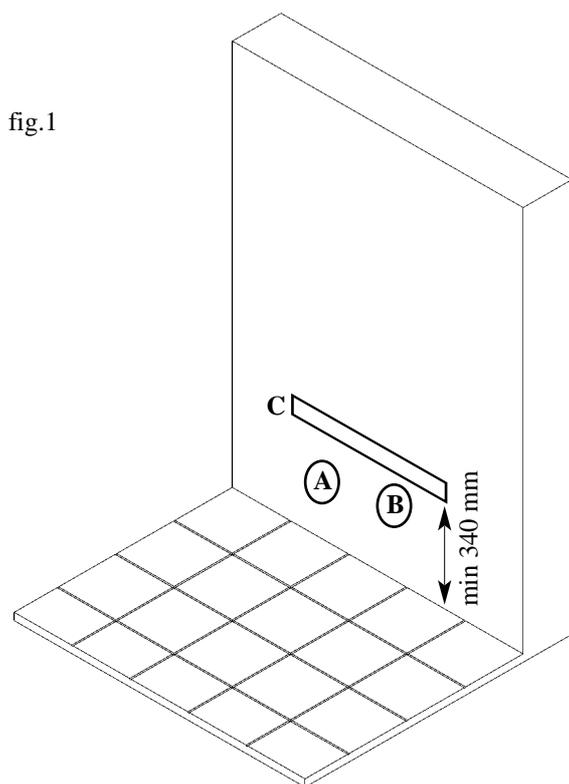

fig.1
4. Insert the plastic pipes of diameter and length adequate to the depth of the wall into the holes drilled for air suction and expulsion, making sure that the pipe lined with condensate-proof material can be fitted into hole A as shown in Figure 1.
5. Make sure that the air expulsion pipe (hole A in Figure 1) is lined with condensate-proof insulation material along its entire length.
Whenever the kit supplied is not used, remember to internally line the air expulsion pipe (to be fitted in hole A in Figure 1) with condensate-proof material for its entire length.